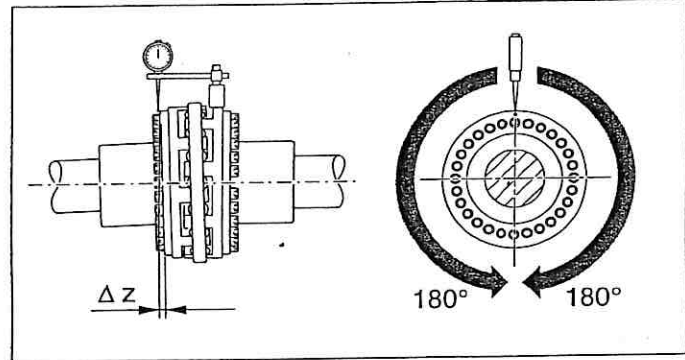

Fig. 5
- Measure a complete revolution (360°). Determine the largest deviation  $z_1$  as well as the smallest deviation  $z_2$  (Fig. 5). Calculate the angular misalignment  $\Delta z = z_1 - z_2$ .